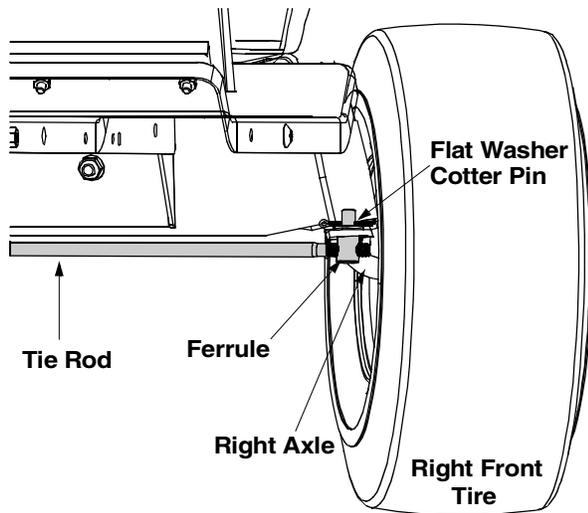

Figure 19
- Locate the ferrule at the right end of the tie rod, just to the rear of the right, front tire of tractor. See Figure 19.